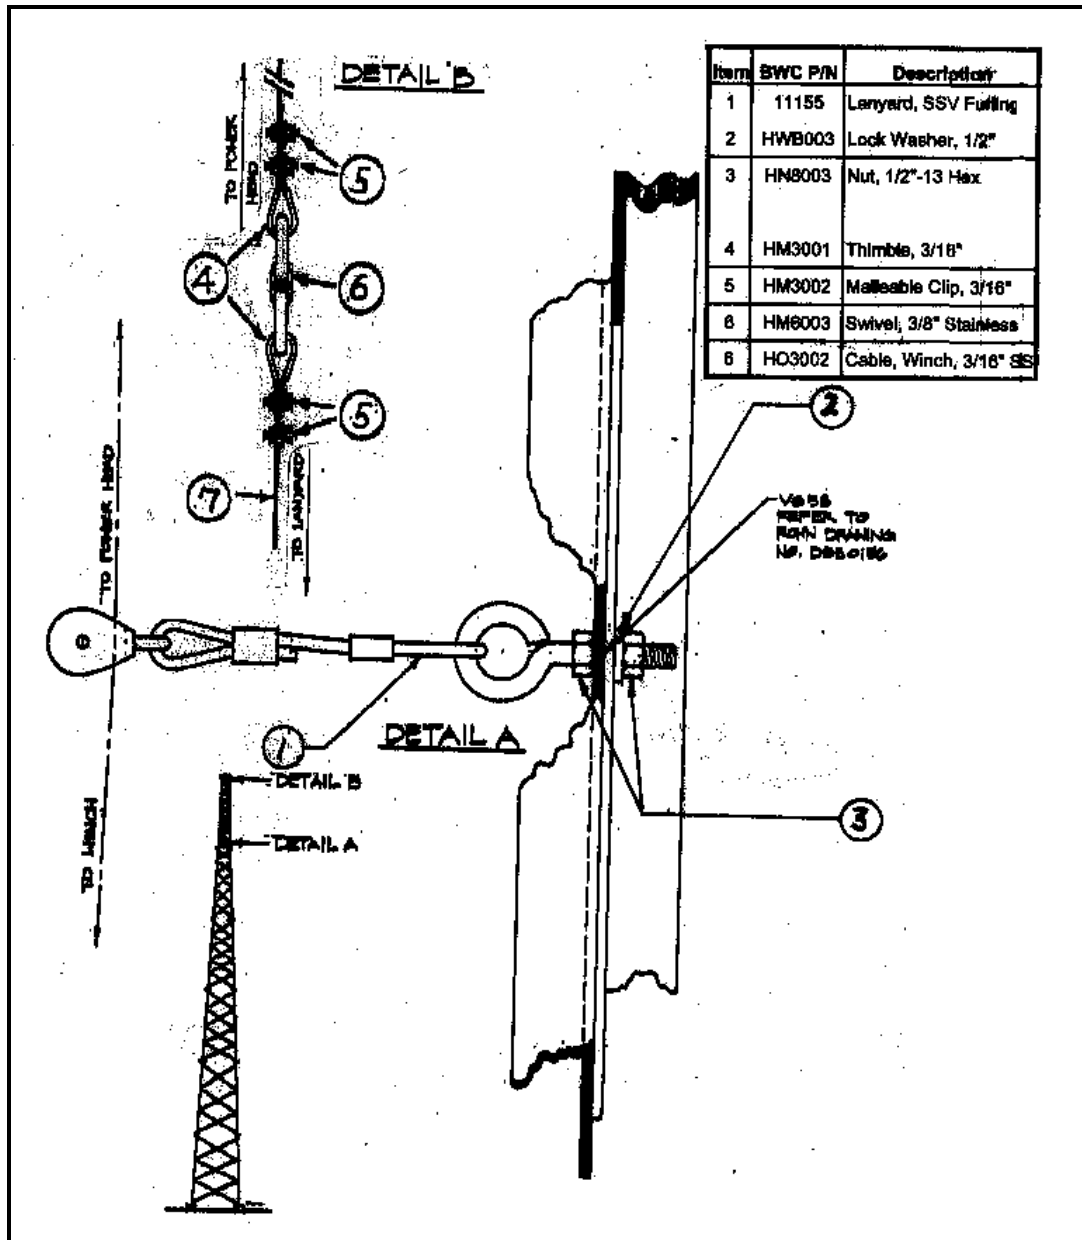

Figure 14. Furling Cable and Lanyard Details
- Attach the furling cable lanyard as shown in **Figure 14, Detail A**. The lanyard is required to assure that the furling cable remains centered in the upper tower section, then angles properly to the winch drum. The lanyard attachment eye-bolt replaces the standard 1/2" bolt at the crossing of the two VG58 braces on the tower face OPPOSITE TO the winch. These are the lowest braces in the top (VG65W) section.
5. Feed the furling cable through the tower, starting from the tower base section. Run the cable through the lanyard pulley, then attach the end to the heavy stainless swivel provided in the tower kit. Use a thimble loop in the furling cable as shown in **Figure 14, Detail B**. The swivel will later be connected to the turbine furling cable; for now it will hold the down-tower furling cable secure in the lanyard pulley.